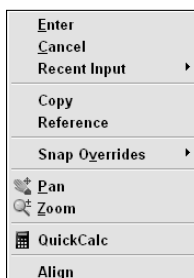

**Figure 33-14:** A custom command menu that appears when you right-click during the ROTATE command; the ALIGN command is at the bottom.
- ♦ For the ROTATE command, you might want to add the ALIGN command (available in AutoCAD only), in case you realize that you need to align an object instead of just rotating it. You can see this customized shortcut menu in Figure 33-14.